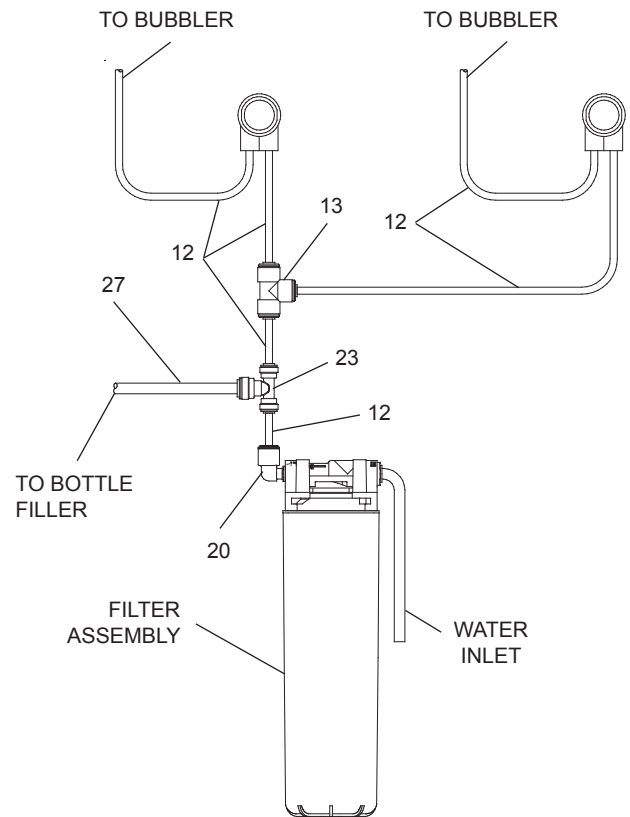

Figure 2 - LZWS-EDFPBM(R)117K-W1 Tube Routing
1. Make water supply connections (Fig. 2). Install a shut-off valve and union connection to building water supply (valve and union not provided). Turn on water supply and flush the line thoroughly.